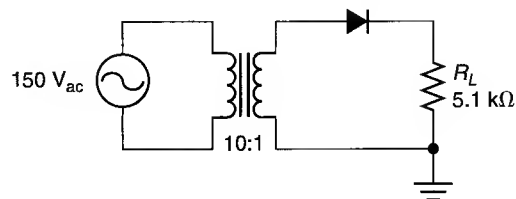

FIGURE 3.53
2. Determine the ac secondary voltage for the circuit shown in Figure 3.53.
4. Determine the peak secondary voltage for the circuit shown in Figure 3.53.
8. Determine the peak load voltage for the circuit shown in Figure 3.53.
12. Determine the average (dc) load voltage for the circuit shown in Figure 3.53.
15. Assume that the diode in Figure 3.53 is reversed. Determine the new values of $V_{L(pk)}$, V_{ave} , and I_{ave} for the circuit.
17. Determine the PIV for the diode in Figure 3.53.